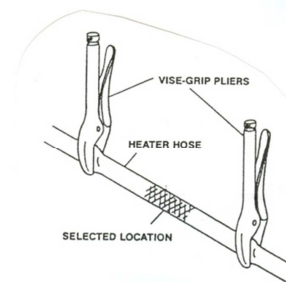

FIG. 2
1.2 CLAMP HOSE PRIOR TO CUTTING – FIG. 2